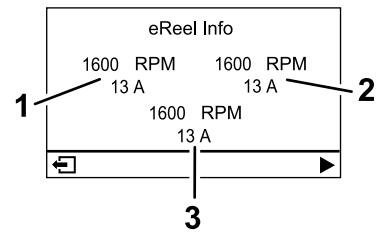

Figure 17
- **eReel motor screen (Figure 17):** shows the speed and current of each cutting-unit motor.